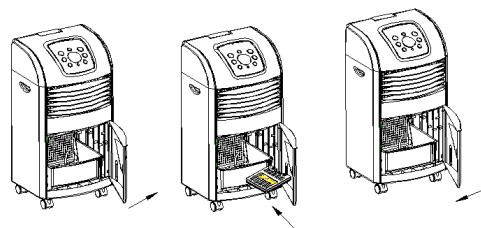

Fig 1
- For added cooling, add ice to the tank or place the icebox in the tank and put cold storage along the track. Icebox and cold-storage must be placed in the freezer for at least 1 hour before use.(Fig.1)